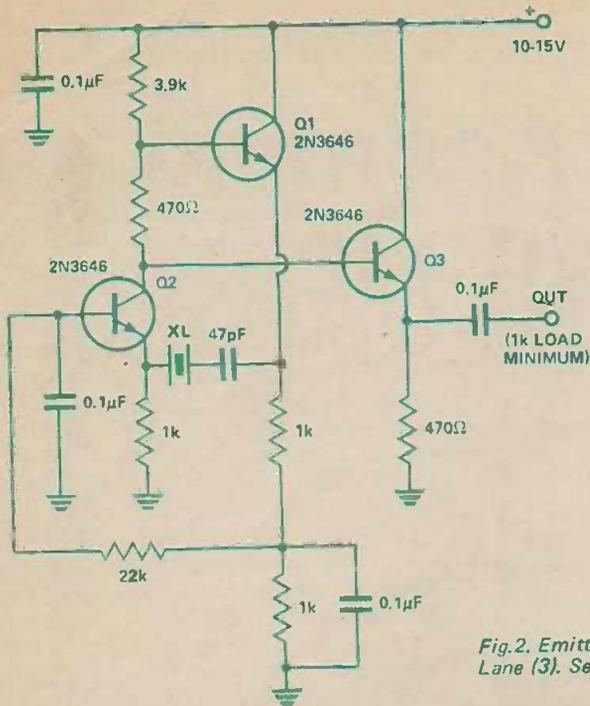

Fig. 2. Emitter-coupled oscillator — after Lane (3). Series mode.
The first circuit is an emitter-coupled oscillator, a version of the Butler circuit. The basic circuit first appeared in VHF Communications in 1970 (p.240) as portion of a VHF-UHF calibration spectrum generator. Versions have subsequently been published in the 'VK5 Bulletin' (S.A. Div. WIA) in 1972 and 6UP, August issue, 1974. Lane (3) discusses a variation of this circuit (Fig. 2).
values. An emitter follower or source follower buffer is recommended. Similar comments to the above apply to Fig. 2. An emitter follower buffer is included in this circuit. Both circuits are slightly frequency sensitive to power supply voltage changes and load variations. A load of 1 k or greater is recommended.